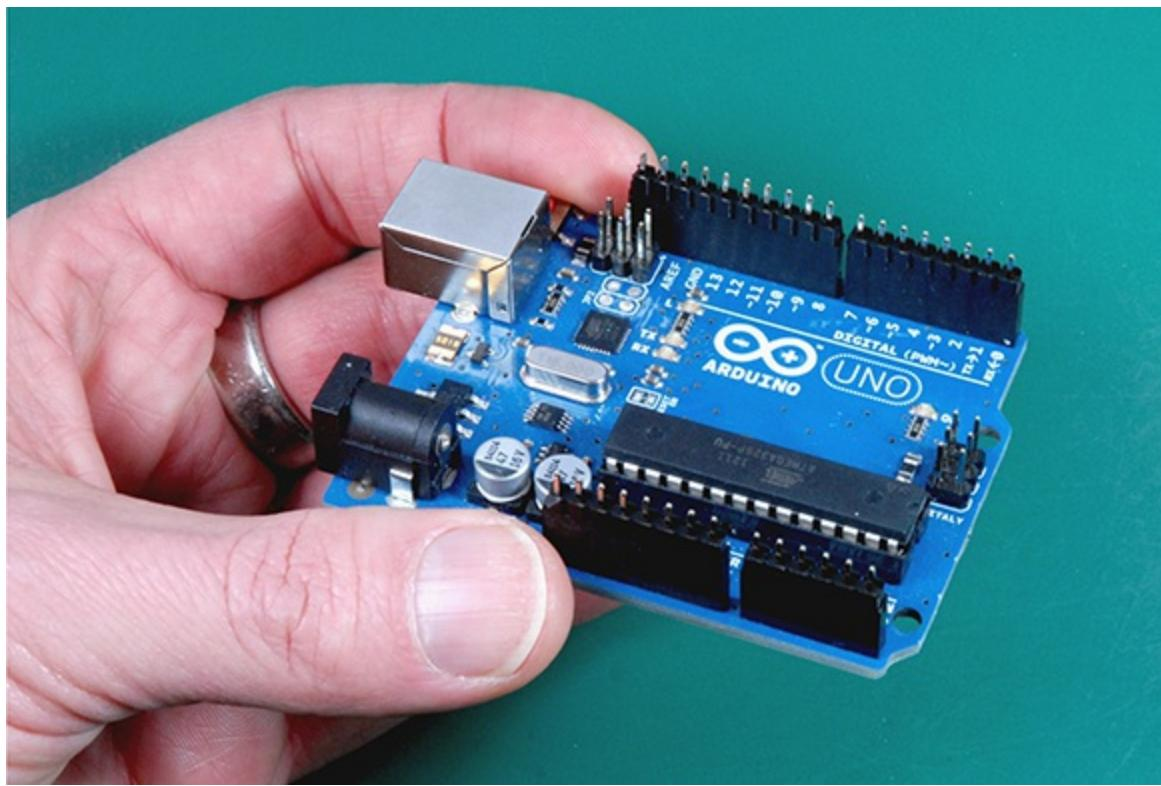

Figure 13-3: Using your Arduino as a soldering support.
2. You use your Arduino as a support for your pin headers while you solder them onto the shield. Insert the pin headers into your Arduino's header sockets, as in Figure 13-3.